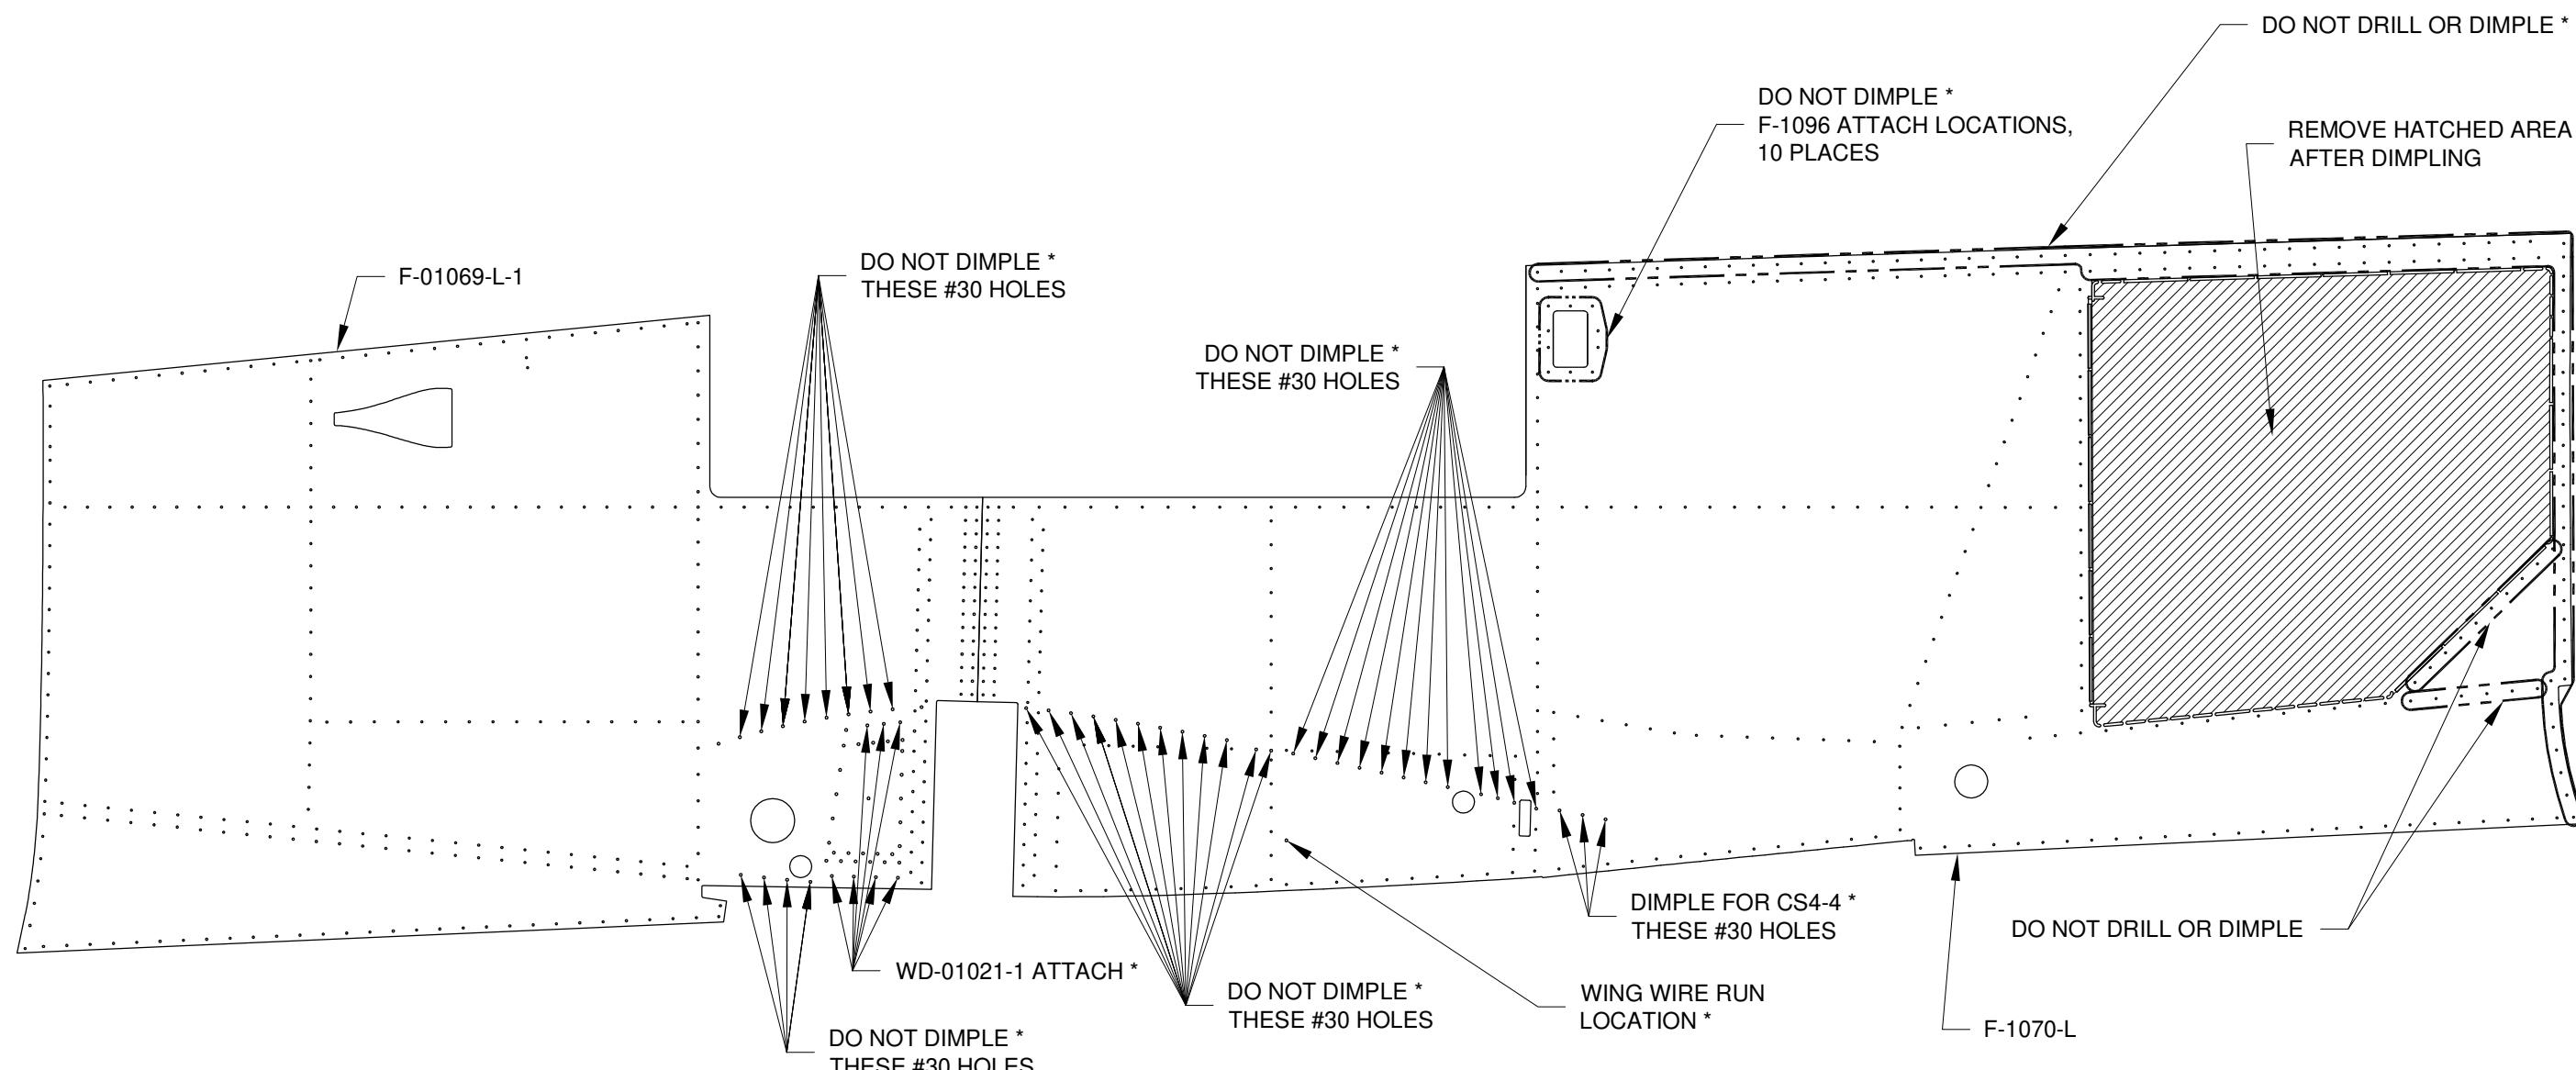

FIGURE 1: DIMPLING THE SIDE SKINS
Step 2: Using the callouts in Figure 1 dimple the F-01069-L-1 & -R-1 Fwd Side Skins and the F-1070 Mid Side Skins.
Step 3: Remove the hatched area from the baggage door area on the F-1070-L Mid Side Skin as shown in Figure 1.
Step 4: Enlarge the wing wire run location in the F-1070-L and -R Mid Side Skins (see Figure 1) for a snap bushing that will accommodate the wires and pressure lines coming from the wing. Deburr, then install a snap bushing in the wing wire run hole. Because of its custom size the snap bushing is not provided in the kit but can be purchased through Van's Aircraft Accessory Catalog. If this hole is not utilized leave it open.
Step 1: Modify the empennage bucking bar created on Page 9-12, Step 3 for use in the rest of this section. See Figure 1.
Step 2: Rivet the F-1034B Seat Back Brace to the F-1034C-L and -R Fuselage Bulkheads per the callouts on Page 29-7, Figure 1. Rivet the seat back brace, F-1034E Seat Back Brace Gusset, F-1046-L Mid Fuse Longeron and F-10102B Baggage Door Seal Angle together per the callouts on Page 29-6, Figure 2. Rivet the F-10102A Baggage Door Seal Angle to the mid fuse longeron per the callouts on Page 29-6, Figure 2.